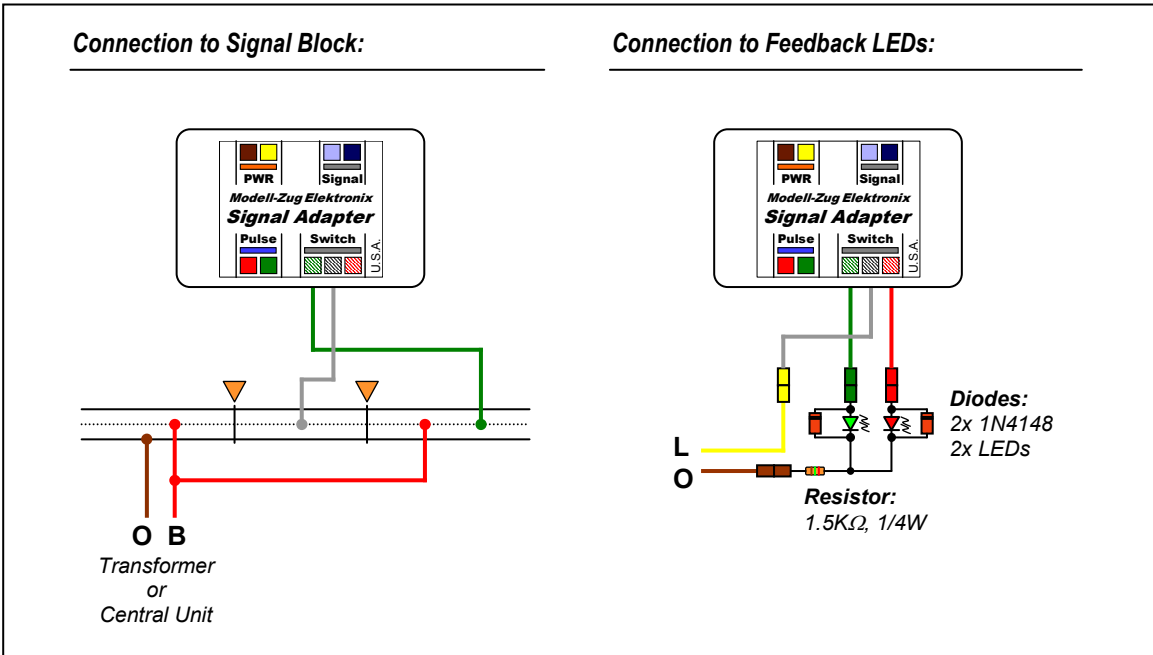

Figure 4. Auxillary Switch Connections
- 2) The Auxillary Switch outputs can be connected to the signal track block created in Section 3.1.1 to provide on/off style train control as shown in Figure 4. They may also be used for layout control panel feedback with LEDs or other logic or control functions. (Note: The 1N4148 diodes connected in anti-parallel across the feedback LEDs are necessary to protect the LEDs from the reverse AC voltage swing.)